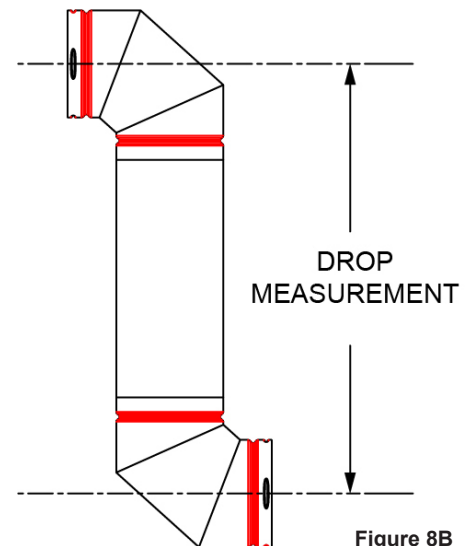

Figure 8B
**Vent runs may also contain a downward component.** The downward component may be a maximum of 6 feet plus the distance to the center line of the elbow. See Figure 8B. This will be about 87" for 8" diameter pipe and 92" for 10" diameter pipe. Due to natural buoyancy of flue gas products, venting downward increases restriction. Every inch of vertical drop counts as triple inches subtracted off the total vent run.